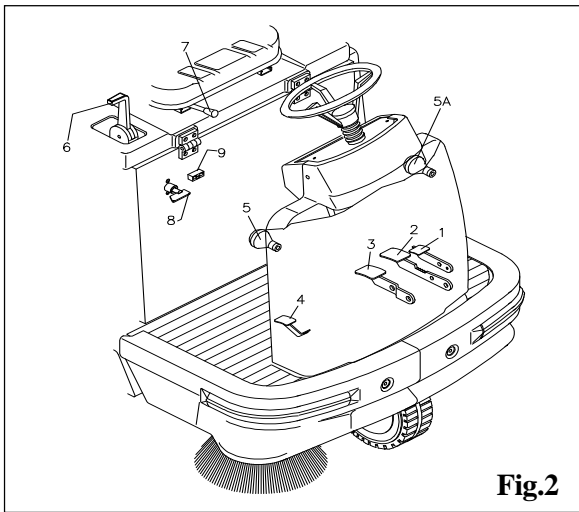

Fig.2
- 1: Place the brush-rising lever **5** Fig.2 on the **OFF** position.
- It is advisable to carry out this operation before the battery is mounted on the machine from being damaged by the electrolytic liquid of the battery. This operation should be done in a sufficiently ventilated environment. Do not smoke. Now put the battery in its housing and connect it appropriately, making sure to respect the polarity. Connect the battery charger to the socket **Fig 2** located on the rear part of the machine and charge for at least 2 hours. After charging, put the caps back on the battery cells.
Connect the battery charger (Fig.2)
2 Make sure the battery disabling key **8, fig. 2** is turned to **ON**.
5 If necessary, release the parking brake with the pedal **2, fig. 2**.
6 Press the accelerator pedal **4, fig. 2** to start the machine and reach the desired speed by means of the pressure of the same.
1 Lower the centre brush by pushing the appropriate lever **6, fig. 2** to **ON**.
2 If necessary, lower the side brush by operating the lever **5, fig. 2**.